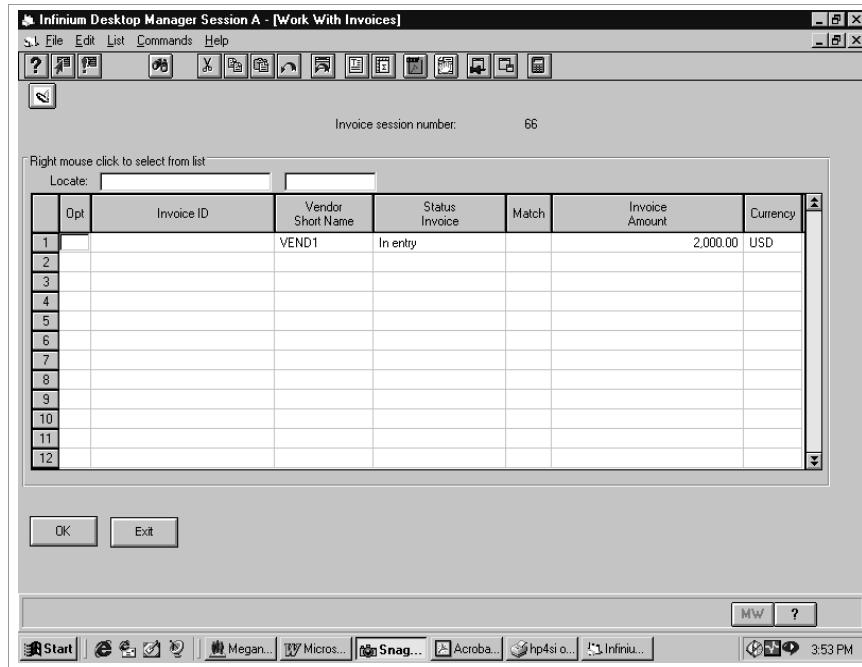

Figure 7-8: Work With Invoices screen
- 4 Select **Work with invoices** or type 5 and press Enter. The system displays the screen shown in Figure 7-8.